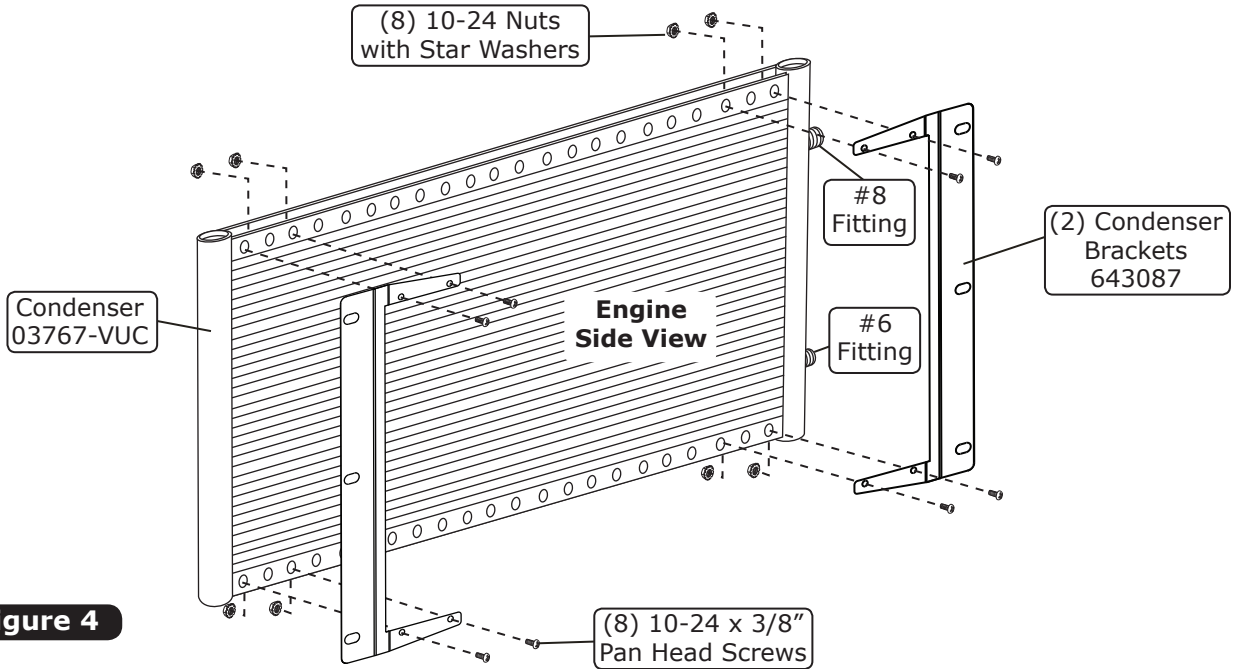

Figure 4
1. Install the condenser mounting brackets onto the condenser using (8) 10-24 x 3/8" pan head screws and (8) 10-24 nuts with star washers (See Figure 4, below). **NOTE: The brackets mount through the 1st & 3rd holes on the condenser.**